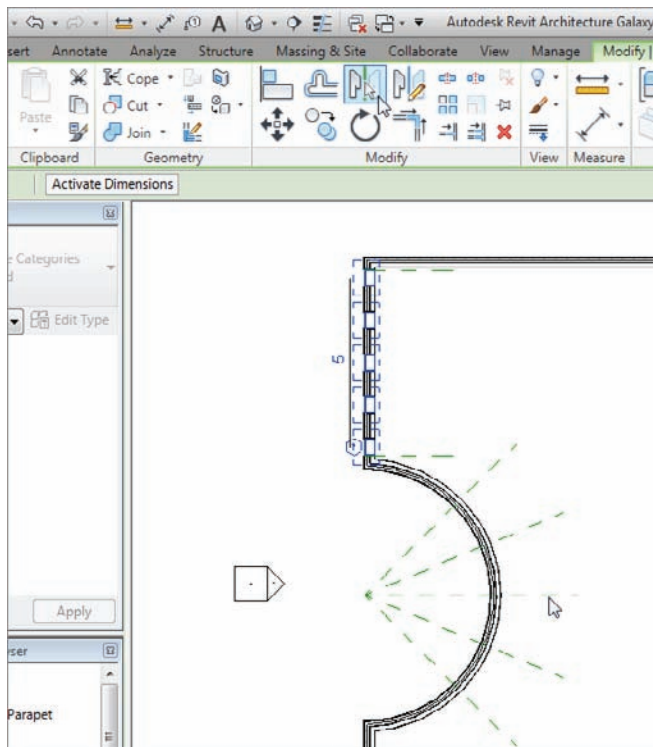

FIGURE 4.26 The line you are going to pick is the reference plane shown here.
4. Position your cursor over the center reference plane that is part of the Radial array. When you pause, you will get a tooltip indicating that you are about to select the reference plane. When you see this tooltip, select the reference plane, as shown in Figure 4.26.